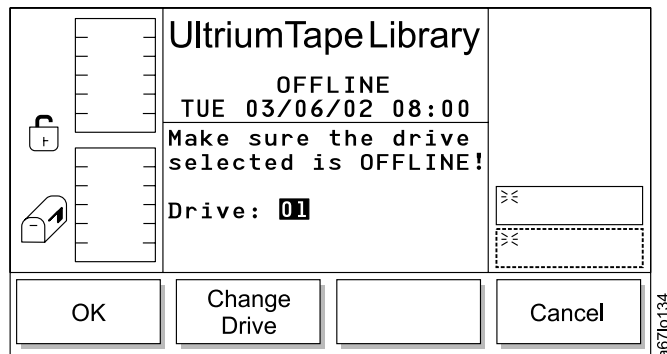

Figure 190. Drives Dialog
- If **Cancel** is selected, the Drives Dialog displays (see Figure 190).